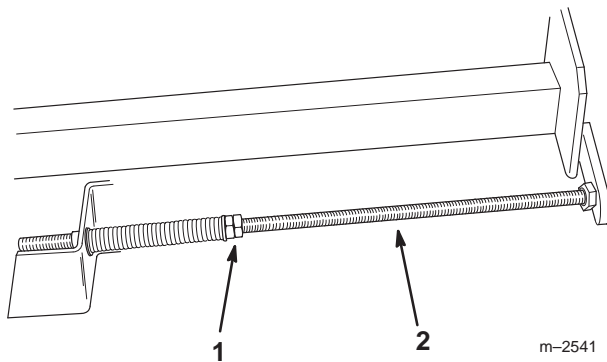

Figure 24
3. Loosen the jam nuts on each adjusting shaft to loosen the tension on the drive belt (Fig 24).